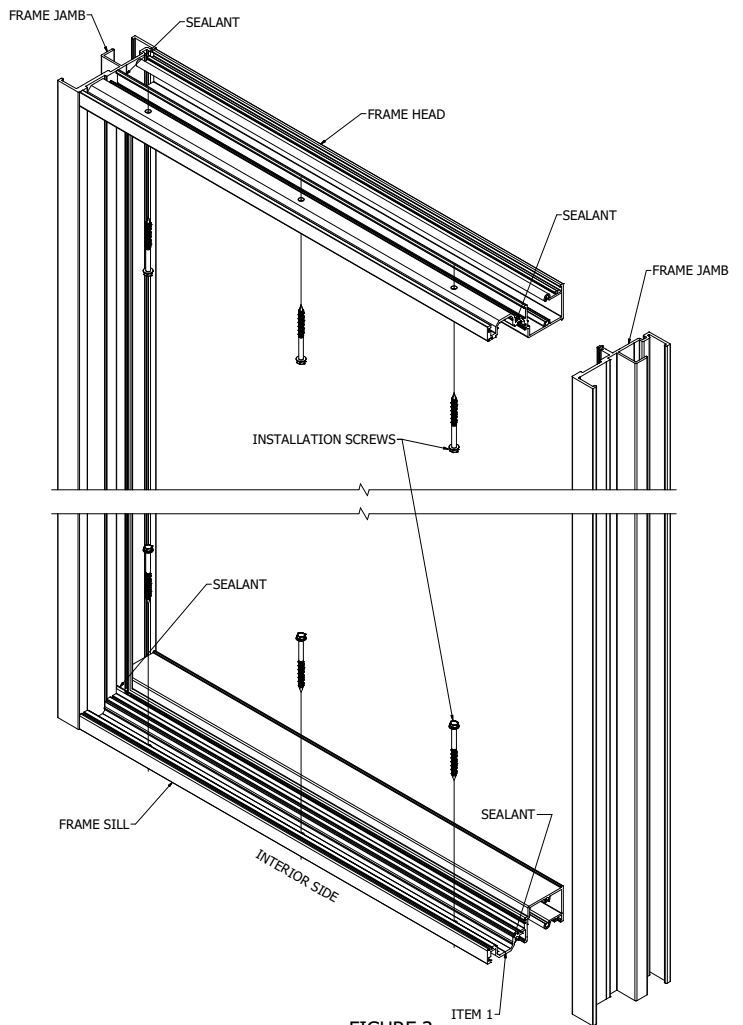

FIGURE 3
**8. Seal Door Sill** – seal all anchors at sill of door and gap at both ends between the sill channel (where installation screws sit) and frame jambs (see item 1 on figure 3)